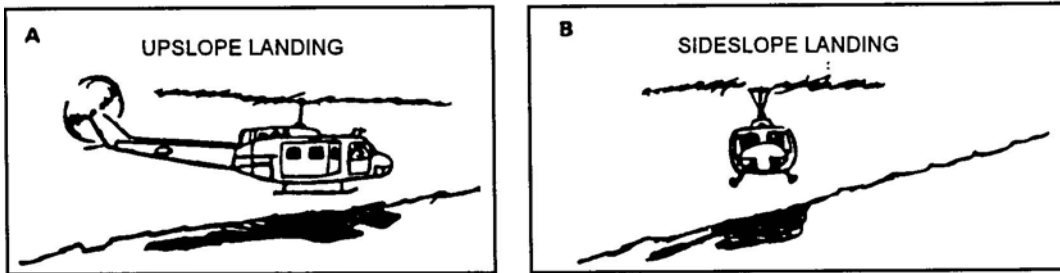

Figure 2. Ground slope of landing site.
b. The ground slope of the landing site (Figure 2). When selecting the landing site, the ground slope must be no more than 15 degrees. Helicopters cannot safely land on a slope of more than 15 degrees.
- (1) When the ground slope is under 7 degrees, the helicopter should land up slope (Figure 2, A).
- (2) When the ground slope is 7 to 15 degrees, the helicopter must land side slope (Figure 2, B).